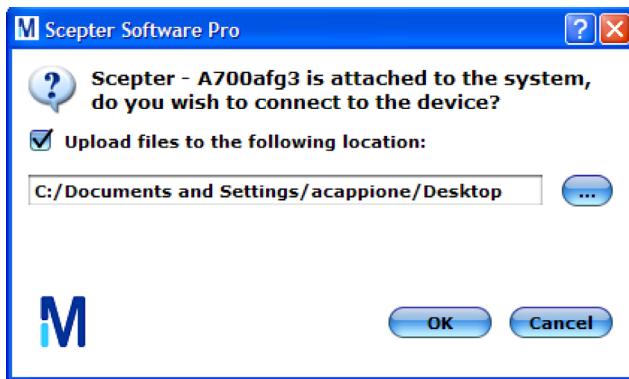

Figure 4. The Scepter Software Pro connection dialog box
2. Click the Scepter application shortcut on your desktop. After the program launches, the **Scepter Software Pro** connection dialog box appears (Figure 4).